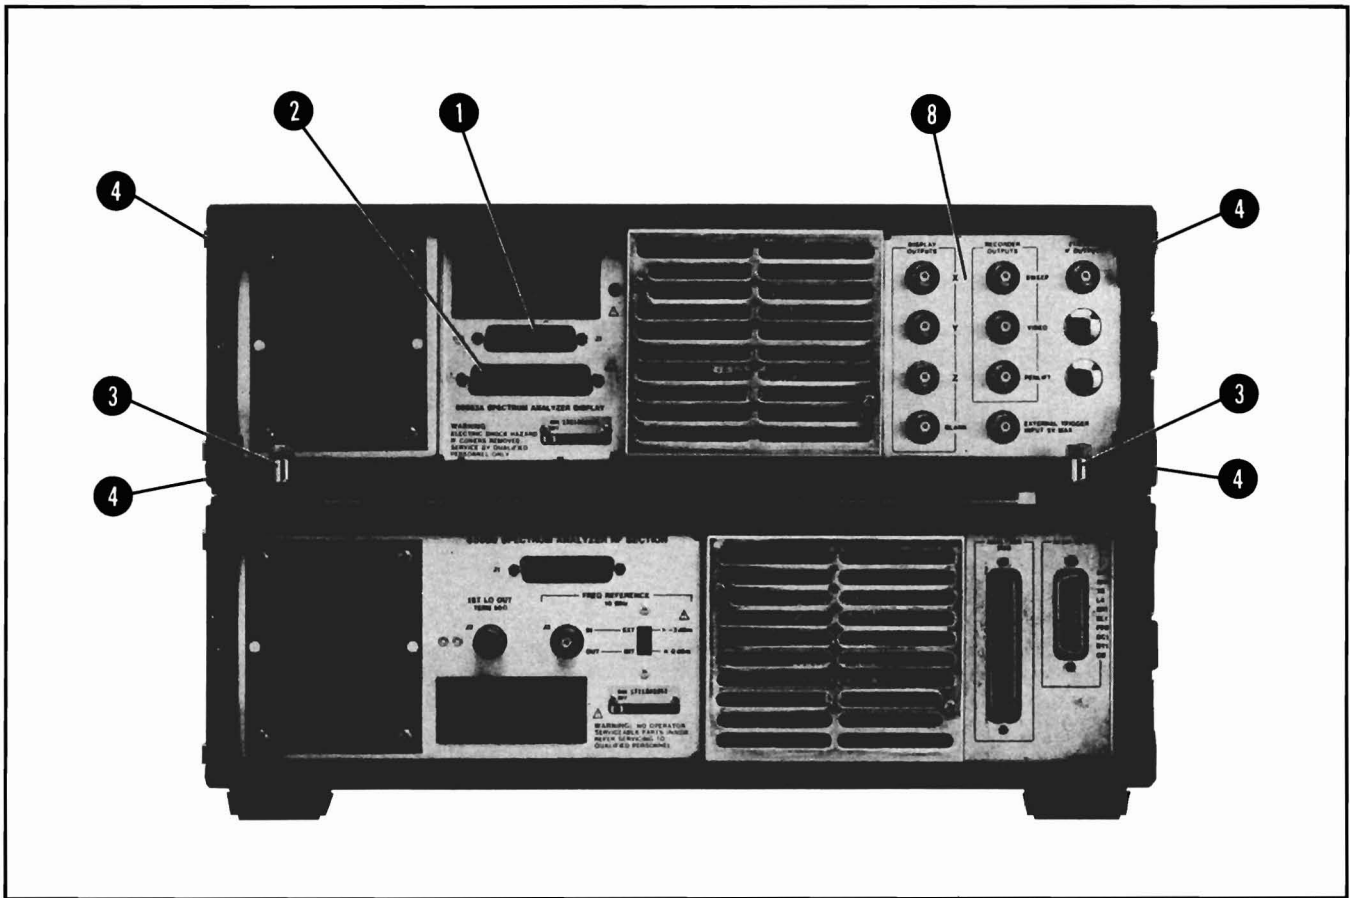
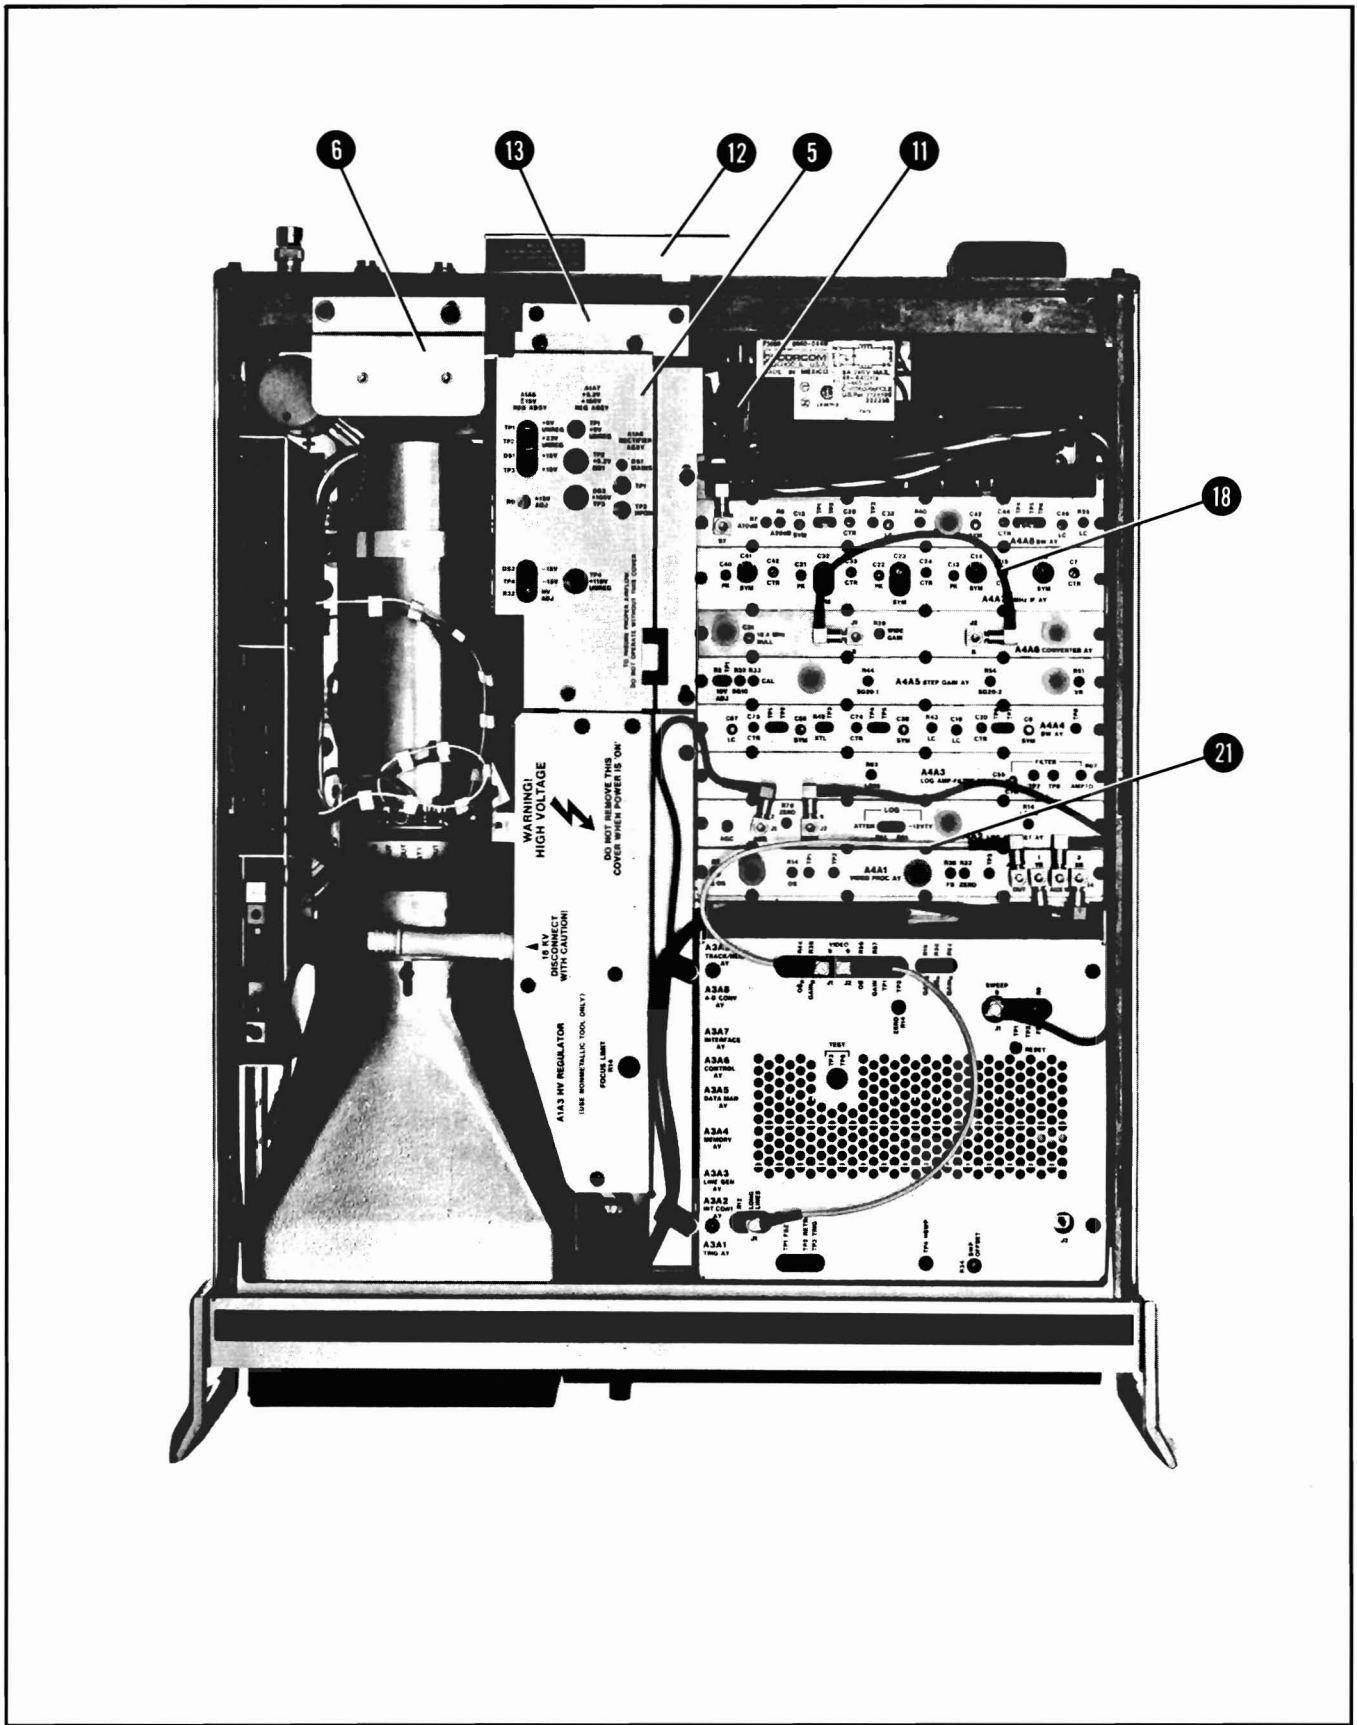
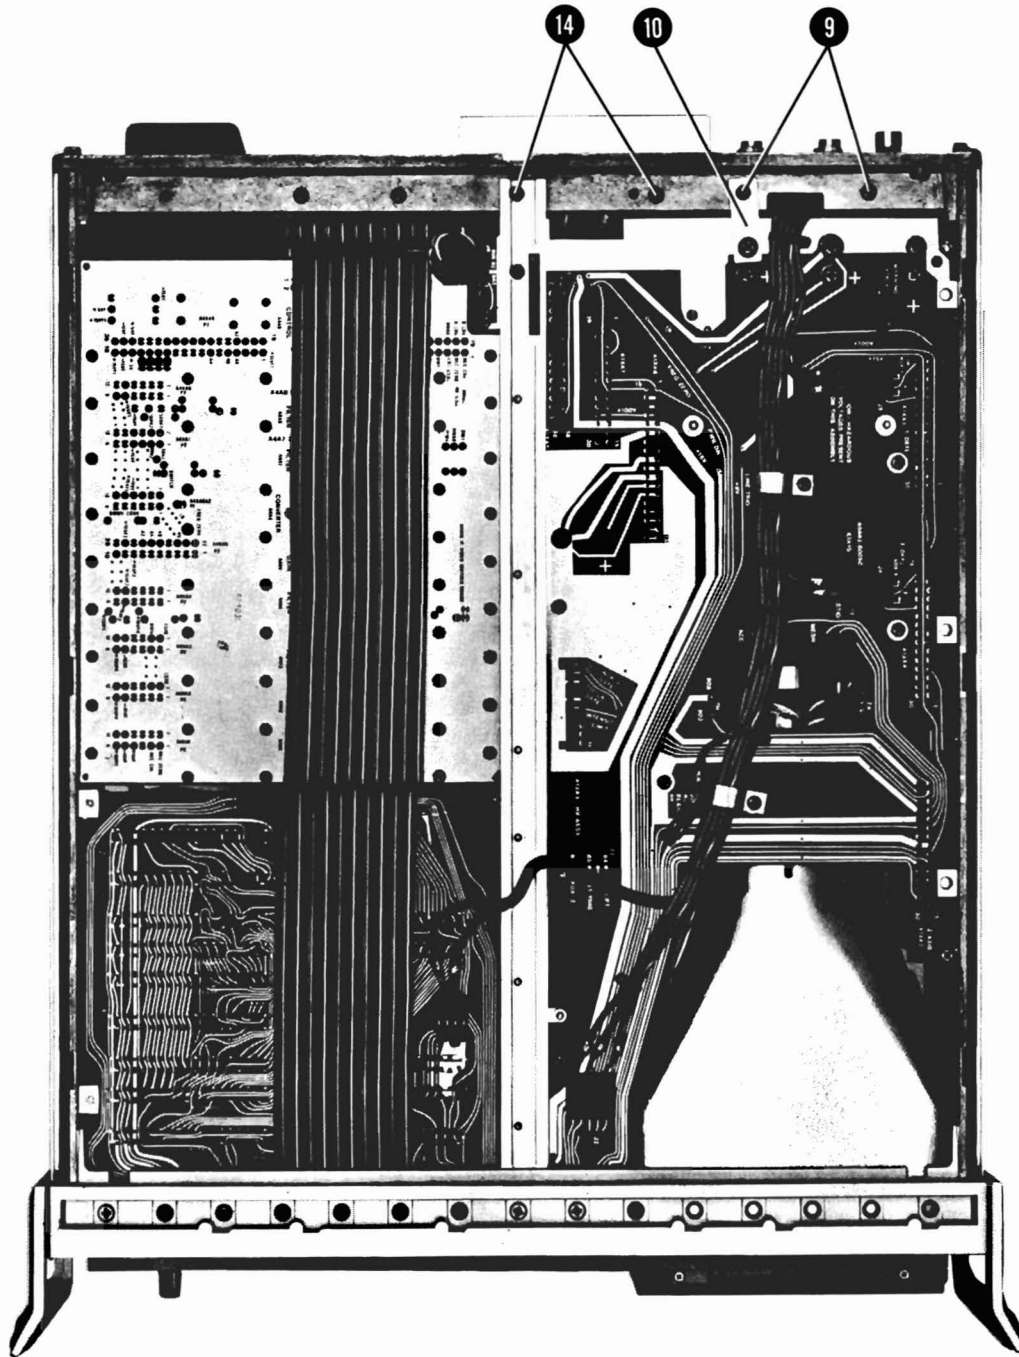
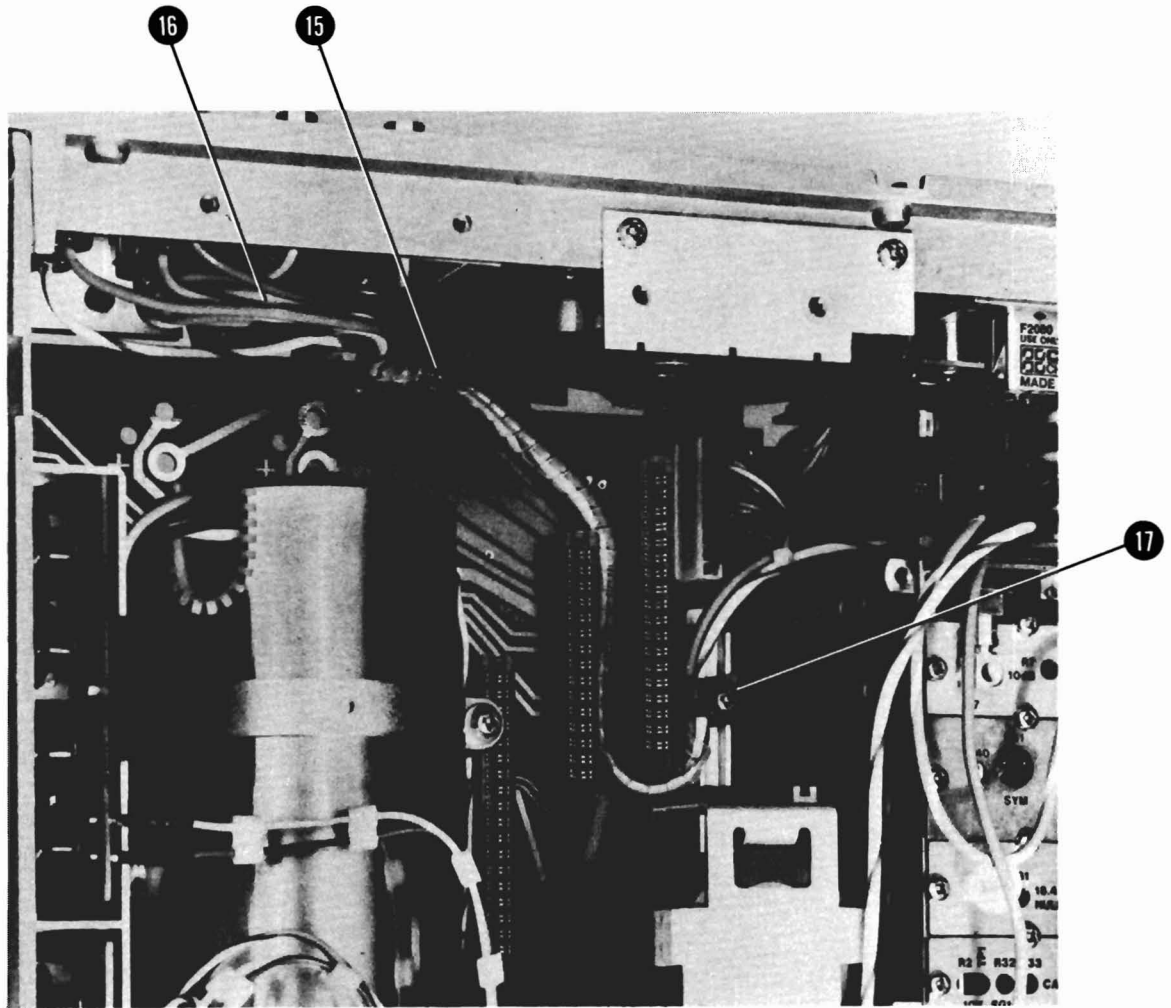

Figure 1. IF-Display Section, Rear View
Figure 2. IF Display Section, Top View
Figure 3. IF Display Section, Bottom View
Figure 4. Quasi-Peak Adapter Cable Routing
2. Disconnect Coax Interconnect cable at J1 ❶ and Bus Interconnect cable at J2 ❷ of IF-Display Section (See Figure 1.)
3. Loosen lock feet thumb screws ❸ on the IF-Display section.
5. Remove top and bottom covers of IF-Display section by removing the 4 feet ❹ from rear of instrument.
7. Remove Voltage Regulator Cover ❺ by removing 5 screws. (See Figure 2.)
9. Remove the Dual Capacitor Bracket ❻ by removing 2 screws.
- 12a. If IF-Display section serial prefix is 2050A or higher, remove hole plugs from IF OUT, IF INP, VIDEO OUT and VIDEO INP on right rear panel ❸. See Figure 1. Set unit on bottom side with rear toward you, then continue with step 16.
- 12b. If IF-Display section serial prefix is 2049A or lower, remove nuts from 9 BNC connectors on right rear panel ❸.
13. Remove remaining two screws ❹ on bottom frame and pull out right rear panel. See Figure 3.
14. Install new right rear panel from kit using 2 screws removed in last step. Be certain to re-install ground strap ❿.
20. Disconnect 2 black wires ⑪ which go from fan to A1A9 Bus Transition board. See Figure 2.
21. Remove Fan Guard ⑫ by removing 2 screws.
22. Remove P.C. Board Bracket ⑬ by removing 2 screws.
23. Place unit on right side and remove 2 screws ⑭ that hold fan to bottom rear frame. See Figure 3.
25. Remove nut and split washer ⑮ from inside lower left screw on fan. See Figure 4.
26. Route the four (4) Quasi-Peak Adapter cables as shown in Figure 4.
30. Slide fan into rear frame, being careful not to pinch 2 black wires. Check to see that 3 Quasi-Peak Adapter cables have a small amount of strain relief ⑯ .
31. Remove # 8 screw ⑰ from clip on center rail.
33. Re-install P.C. Board Bracket ⑬ . Do not tighten screws. Refer to Figure 2.
37. Adjust P.C. Board Bracket ⑬ so that slots engage power supply boards, then tighten screws.
38. Reconnect 2 black wires ⑩ from fan to A1A9 Bus Transition board.
39. Disconnect 8 (gray) cable ⑮ from A4A6J1 to A4A6J2. Refer to Figure 2.
A3A9J1 and A3A9J2 are connected to the same point. Another 9 cable is connected from A3A9J2 to A3A2J1. See Figure 2.
51. Re-install Dual Capacitor Bracket ⑥ . See Figure 2.
52. Re-install Fan Guard ⑫ .